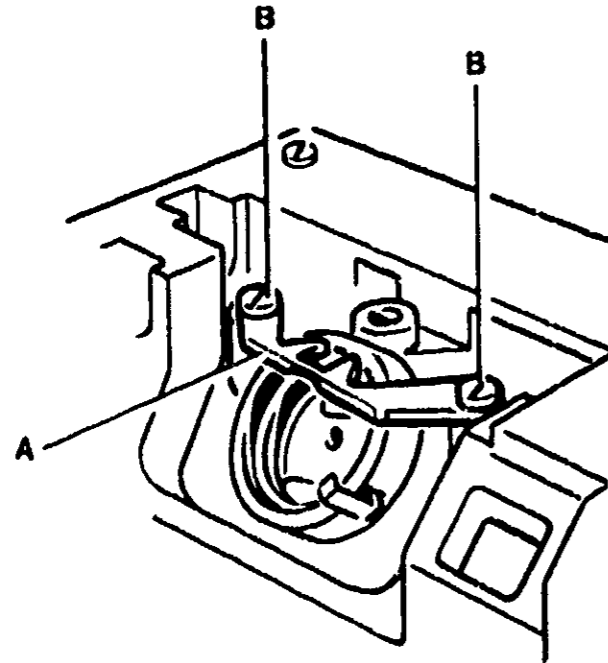

FIGURE 36
- Loosen screws (B) and remove bobbin case stop (A) (Figure 36)